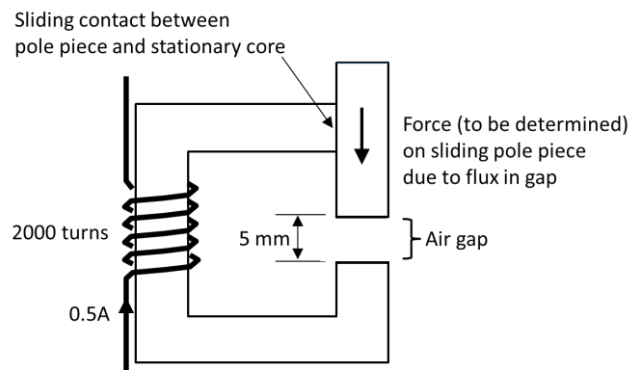

Fig. Q.3
3. The electromagnetic actuator shown in Figure Q.3 has a winding with 2000 turns through which a current of 0.5 A flows. One of the pole pieces slides in order to form a variable air gap. The cross-section of the pole pieces is 200 mm². If the reluctance of the core is neglected and there is assumed to be no significant air gap between the sliding components, calculate the force provided by the actuator when the air gap between the pole pieces is 5 mm. [6]